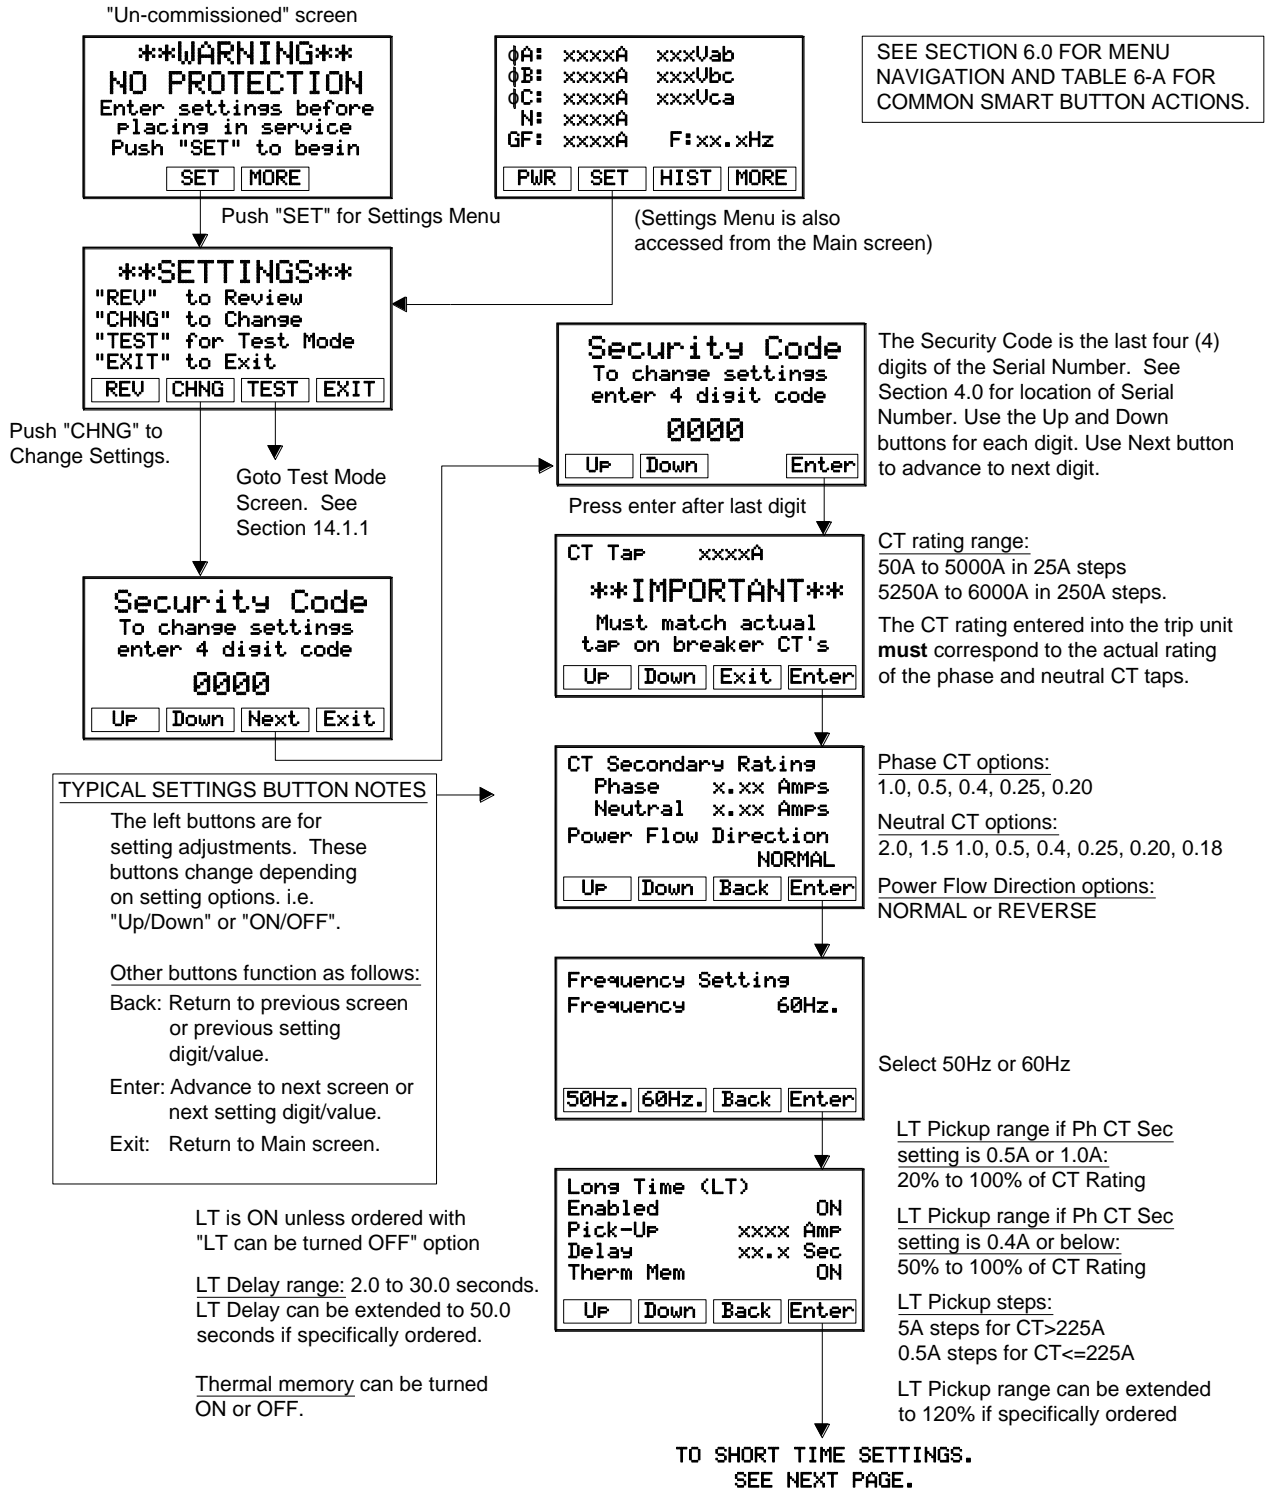

Figure 11.2: Change Settings Menu - Part 1
The security code is the last four (4) digits of the serial number. See Section 4.0 for location of serial number. See Figure 11.2.
The CT rating entered into the trip unit **must** correspond to the actual rating of the phase and neutral CT taps. See Figure 11.2.
The CT secondary rating settings are entered in Amps and **must** correspond to the actual CT ratings. See Figure 11.2.
Set the AC-PRO-II frequency to match the power system frequency. The setting options are 50 Hertz and 60 Hertz. See Figure 11.2.
See Figure 11.2 for Long Time protection settings notes, ranges, steps, and options.